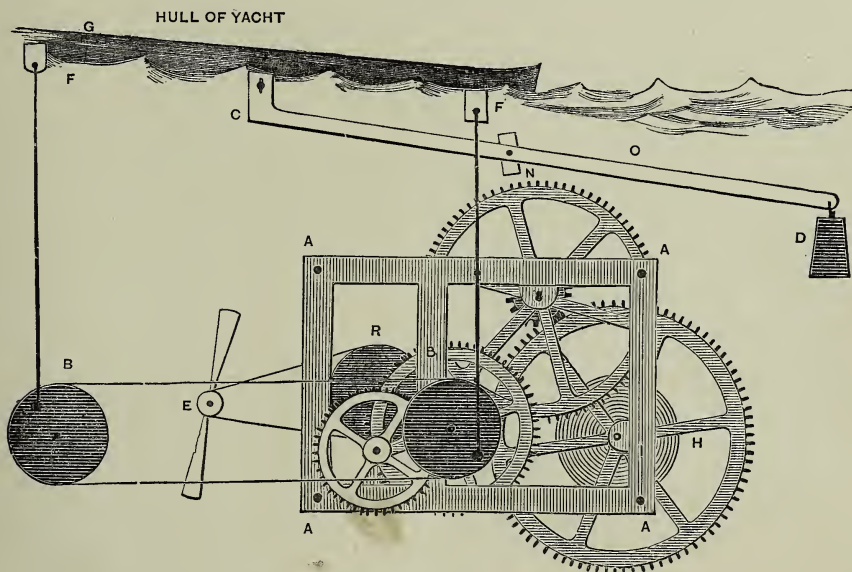

Fig. 5.
The yacht is to be 5 in. long, and is to be set in a sea of silk, which will be described further on. If you prefer it, a full-rigged ship can be substituted for the yacht. For the machinery you will require, as before, an eight-day clock movement, some brass wire, and three or four pulley-wheels. Fig. 5 shows the front view of the mechanism when complete, and Fig. 6 the end view of the same.
As was the case in preparing the works for the windmill, you will require to make some alteration in the wheels, but in this case, as the hour and minute movement will be required for the starting gear, the minute spindle only is to be soldered to the central spindle, and the small flat wheel retained in its place. The escapement wheel must also be retained. B (Fig. 5) is one of the wooden pulleys, 1 in. in diameter, fixed to the minute-hand spindle, and is in connection with another pulley-wheel of the same size (B), turning on a screw fixed in a block of wood fastened to the floor-board in such a position that the centres of the two pulleys are the same height from the floor and $4\frac{1}{2}$ in. apart. O is a lever of wire about 7 in. long, working on a pivot passing through it about $2\frac{1}{2}$ in. from the end c.
Now take your boat, and at each end of the keel fix a small brass plate having a hole drilled in it (FF, Fig. 5), $4\frac{1}{2}$ in. apart, and fix another plate drilled in the same way at C, about $2\frac{3}{4}$ in. from the stem of the boat. Take two pieces of wire 5 in. long and bend one end of each into an eye and the other end into a hook, crosswise with regard to the eye, and hook a wire into each of the plates FF, on the
keel of the boat, and connect the other ends with the pulleys B and B by two small brass screws passing into the fronts of BB, as shown in Fig. 5, and arrange the pulleys so that one of the pivots shall be up while the other is down.
All these joints and connections must work freely, although not loosely. The two pulleys, BB, you must connect with a cord passing round both. The pitch of the vessel is regulated by the distance the pivot screws are from the centres of the pulleys, which should be about half an inch. You must next make the regulating gear or fly E (Fig. 5). To do this you must take out the pin from the left-hand lower corner of the frame-plate and prise
up the plate and take out the fourth wheel near R (Fig. 5), and on the spindle of it fix a pulley, which can be readily done in the following manner. Cut a small notch in one side of the hole in the centre of the pulley just large enough to admit a piece of your wire. Solder about half an inch of this wire along one side of the spindle about the middle of it, and force the pulley on to the spindle over this piece, and it will jamb lightly and be keyed to it. Fig. 7 will show you how to cut the hole in the pulley.
Now return the wheel to its place and re-fasten the frame-plate. Next you must make the fly *E*. Get a small brass pulley about $\frac{1}{2}$ in. in diameter, and to it solder a strip of tin cut to the shape shown, but being wider in proportion at the ends, say 1 in. wide and 4 in. long. Twist the ends of this fly askew like the fans of a screw propeller, so that it will catch the wind in revolving. Now fix a block of wood to the bottom of the case and fix the fly to it by a small brass screw passing through its centre, so that it works freely and is $3\frac{1}{2}$ in. from the centre of the driving pulley *R* and level with it. Fasten a block of wood to the back of the case, in which you must fix the screw *N* (Fig. 5) for the lever *O* to pivot on. You must next make the starting gear. This is shown in Fig. 8.